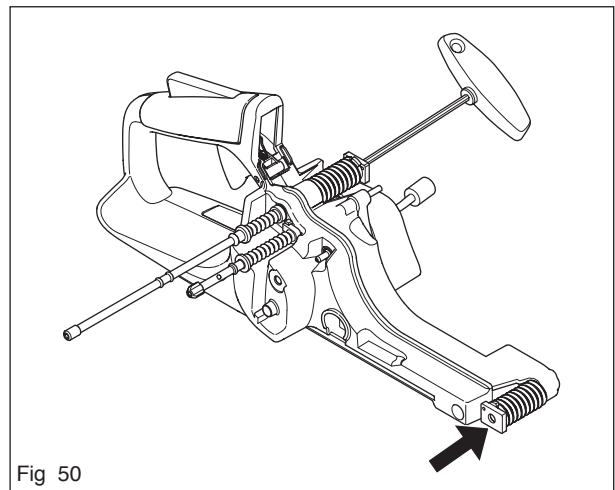

Fig 50
3. Dismantle the springs on the tank unit with the help of a 5 mm allen key (tool 502 50 18-01) (see figure 50).